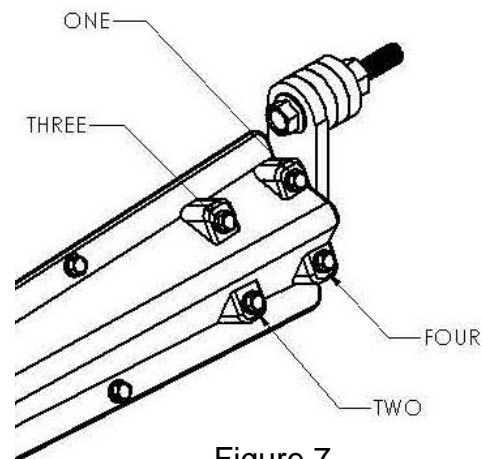
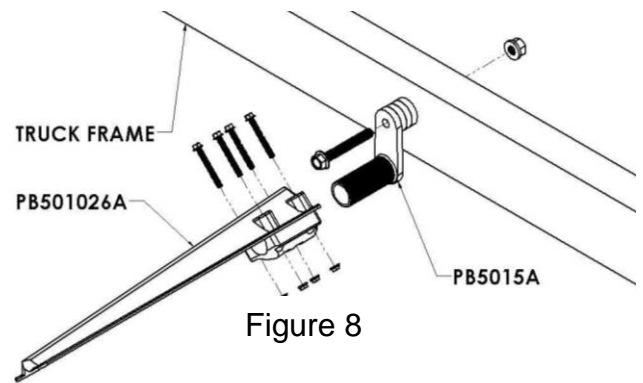

Figure 7
Figure 8
TIP: Do not completely tighten one side of the backing block before moving to the other side. Alternate tightening bolts as pictured in Figure 8. Make sure to only tighten halfway and then repeat the pattern in Figure 7 until backing block is flush against the bracket (PB501026).
- A. Once the brackets are placed in position with the fender, tighten the 5/8" x 4-1/2" bolts that go through the PB5015 steel swivel to attach the swivel securely to the frame (Figure 8). **Recommended torque is 160-170 ft-lbs.**